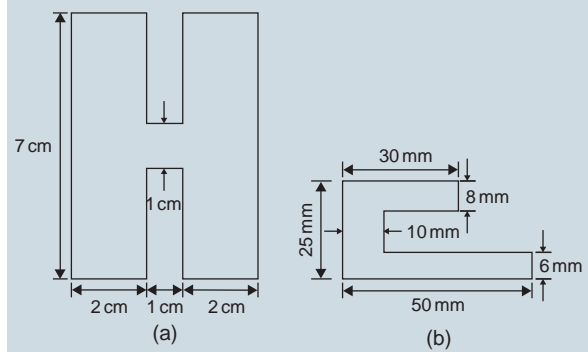

Figure 2.25
5. Determine the area of each of the angle iron sections shown in Fig. 2.25.